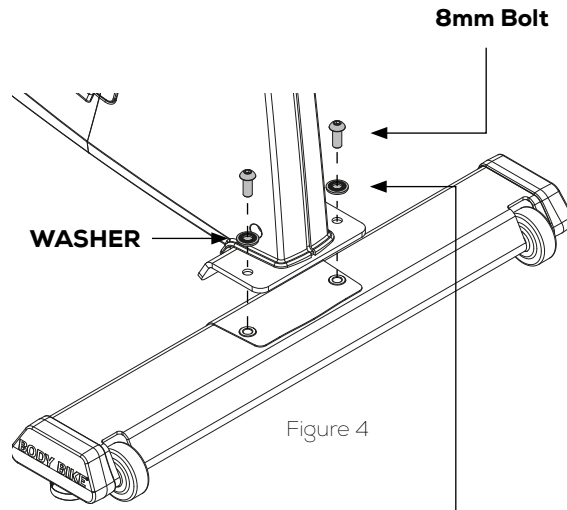

Figure 4
- 3) Put on the spring lock washer and the 8mm bolt and tighten by using a 5 mm Allen wrench, see figure 4.